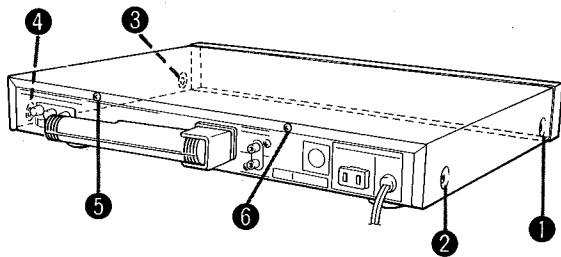

Fig. 1
Remove screws ① to ⑥ in Fig. 1, and then remove the cover by sliding it to its rear a little.